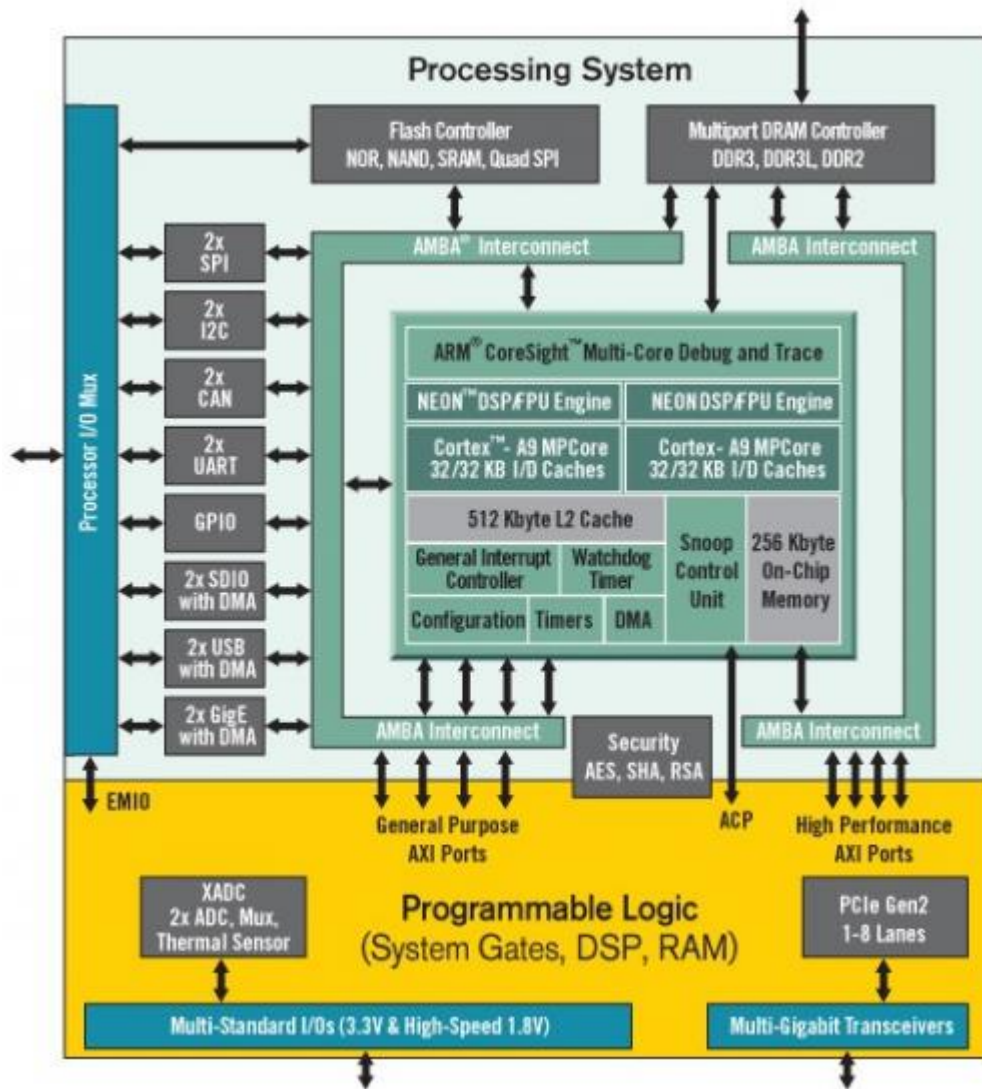

Figure 3. Zynq AP SoC architecture.
The Zynq AP SoC is divided into two distinct subsystems: The Processing System (PS), and the Programmable Logic (PL). Figure 3 shows an overview of the Zynq AP SoC architecture, with the PS colored light green and the PL in yellow. Note that the PCIe Gen2 controller and Multi-gigabit transceivers are not available on the device found on this board.
The PS consists of many components, including the Application Processing Unit (APU, which includes 2 Cortex-A9 processors), Advanced Microcontroller Bus Architecture (AMBA) Interconnect, DDR3 Memory controller, and various peripheral controllers with their inputs and outputs multiplexed to 54 dedicated pins (called Multiplexed I/O, or MIO pins). Peripheral controllers that do not have their inputs and outputs connected to MIO pins can instead route their I/O through the PL, via the Extended-MIO (EMIO) interface. The peripheral controllers are connected to the processors as slaves via the AMBA interconnect, and contain readable/writable control registers that are addressable in the processors' memory space. The programmable logic is also connected to the interconnect as a slave, and designs can implement multiple cores in the FPGA fabric that each also contain addressable control registers. Furthermore, cores implemented in the PL can trigger interrupts to the processors (connections not shown in Fig. 3) and perform DMA accesses to DDR3 memory.